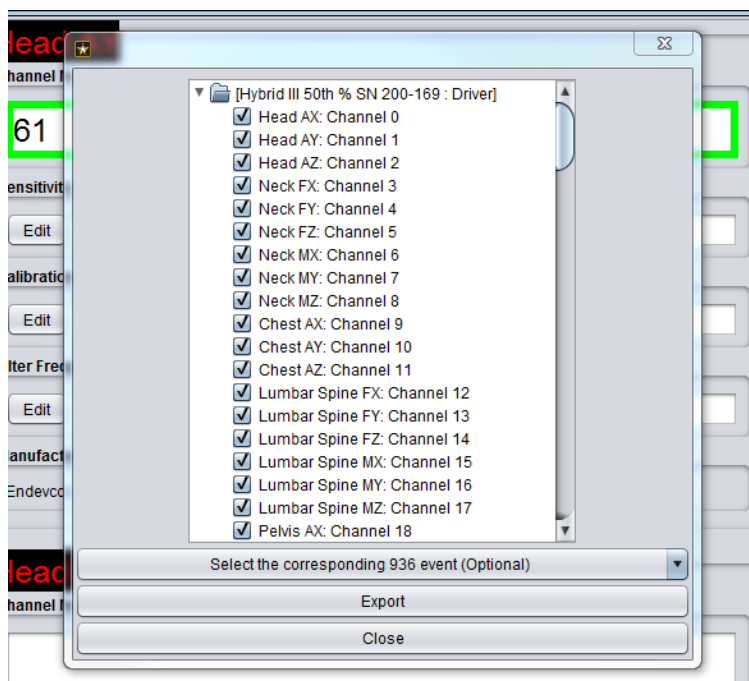
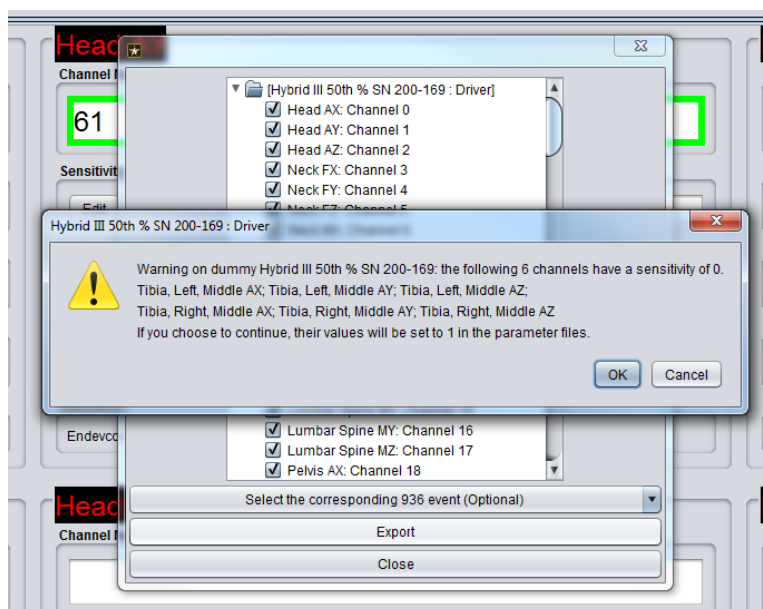

Figure 5.
Figure 6. Sensitivity error.
c. After channel numbers have been assigned to all of the ATD channels, it is now time to export the ATD channel configuration. Click on “Export Parameters” at the bottom of the window. In the dialogue box that pops up, confirm that all the channels are assigned to the appropriate ATD (Figure 5). In the drop down menu, if applicable, select the test event that the ATDs are going on. Next, select export. A warning may appear about some channels having a sensitivity of “0”, this is due to those channels not being installed in the ATD (Figure 6). Selecting OK will assign a sensitivity of 1 to those channels, or hit cancel and redo the channel assignment to not include those channels. If proceeding with assigning a sensitivity of 1 to those